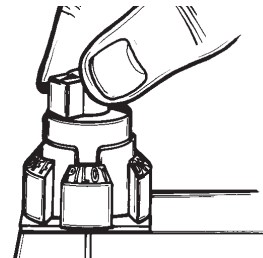

FIGURE 26.
- With the thermostat knob in the "OFF" position, turn the gas on. Check for leaks with a soapy solution. If leaks are found, turn the gas off immediately and correct. Do not test gas leaks with a match or flame. Read lighting instructions on page 20 for natural gas models and page 21 for propane gas models. Do not light the water heater until it is completely filled with water, see Figure 26.